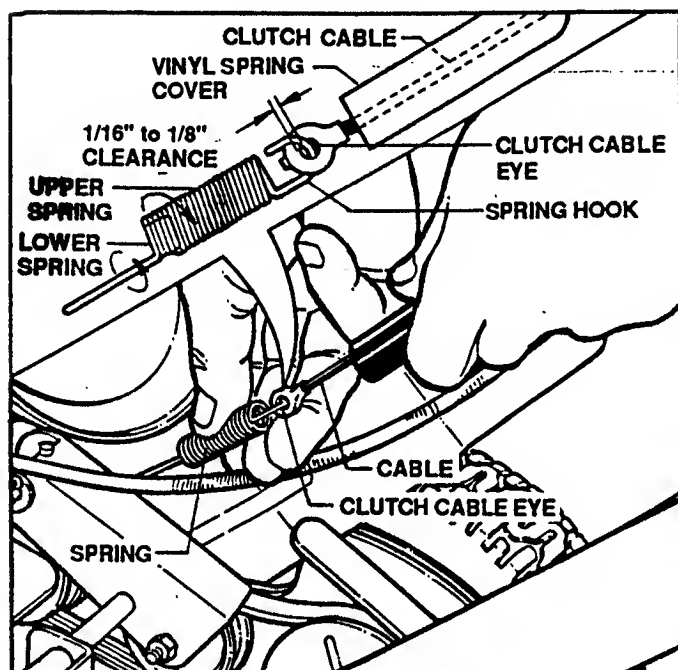

FIGURE 3.8
1. The wheel drive control is properly adjusted when there is 1/16" to 1/8" clearance between the inside of the spring hook and the inside of the clutch cable eye with the wheel drive control released. See Figure 3.8.